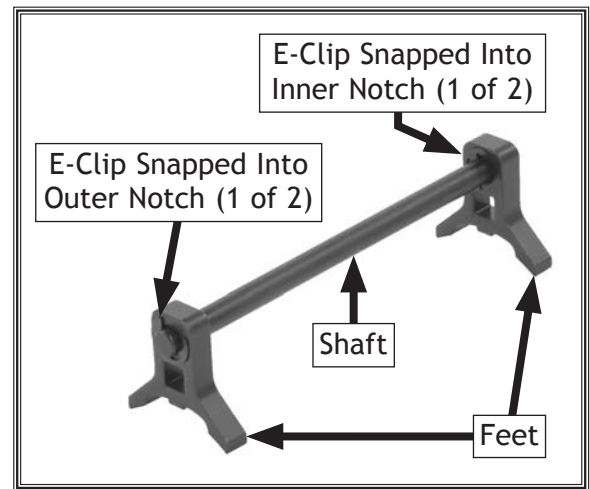

Figure 14. Example of assembled knife-setting jig components.
9. **W1864:** Assemble knife-setting jig (see **Figure 14**).
- a. Snap (2) 9mm E-clips into inner notches on knife-setting jig shaft.
- b. Slide (2) knife-setting jig feet onto ends of shaft.
- c. Snap (2) 9mm E-clips into outer notches on ends of shaft to secure feet.